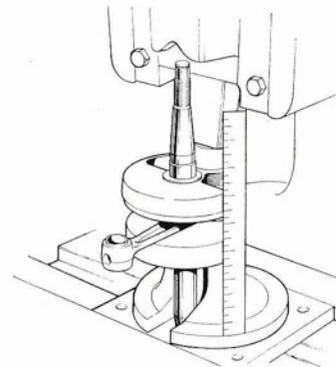

Fig. 19 Using steel rule to align crankcheeks prior to final assembly.
- 8 Position the top crankcheek over the crankpin, visually aligning the two crankcheeks and the edge of the cutaway areas (see *Fig. 19*).